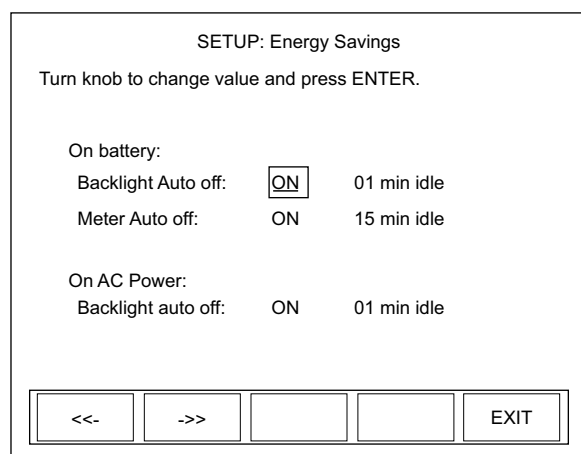

Figure 4-47. SETUP: Energy Savings (Changing the Values)
2. Press the ENTER/SET button to Display the SETUP: Energy Savings screen (Figure 4-47).
Selecting ON as a value on the SETUP: Energy Savings screen will display an editable field next to that value (as shown in Figure 4-47). Continue to step 4.